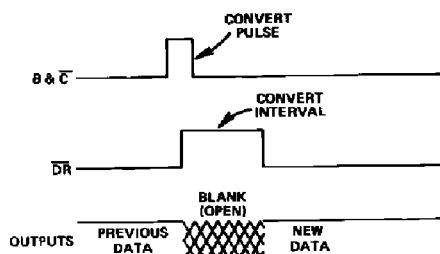
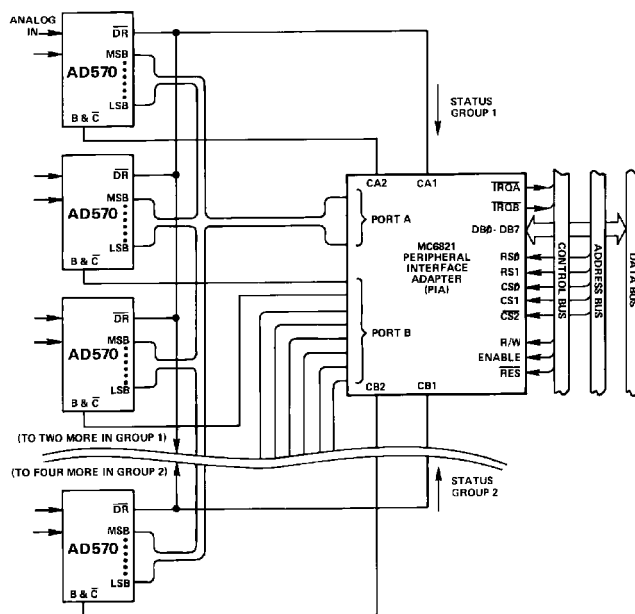

Figure 10. Convert Pulse Mode
**Figure 13. Interfacing AD570 to an 8-Bit Bus (8080 Control Structure)**
**Convert Pulse Mode**—In this mode, data is present at the output of the converter at all times except when conversion is taking place. Figure 10 illustrates the timing of this mode. The BLANK and CONVERT line is normally low and conversions are triggered by a positive pulse. A typical application for this timing mode is shown in Figure 13, in which  $\mu$ P bus interfacing is easily accomplished with three-state buffers.
The AD570 can easily be arranged to be driven from standard microprocessor control lines and to present data to any standard microprocessor bus (4-, 8-, 12- or 16-bit) with a minimum of additional control components. The configuration shown in Figure 13 is designed to operate with an 8-bit bus and standard 8080 control signals.